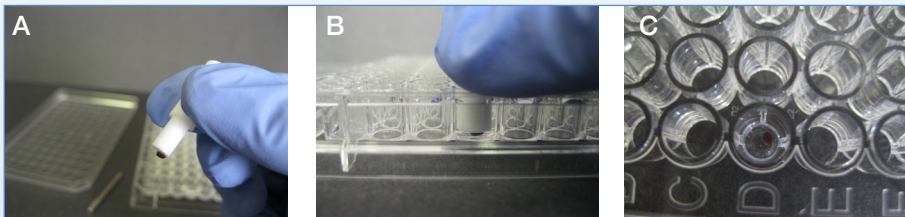

Figure 2: Take the magnet out of the PTFE tip (a) and place the culture down (b) to where you want to transfer the cells to (c).
4. Remove the magnet from the PTFE tip. The culture should remain on the MagPen™ (**Figure 2**).
5. Place the MagPen™ down where you want to transfer the cells to. The culture should then come off the MagPen™ (**Figure 2**).
6. Lift the MagPen™ away from the culture (**Figure 2**).